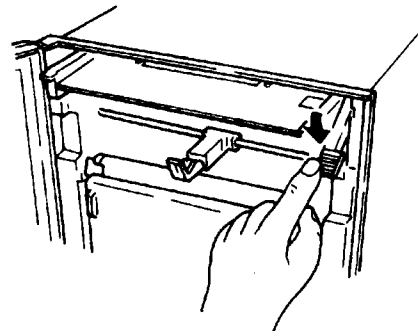

Figure 1.2b Scale Closing
- To return the scale plate back, first lift the release lever until the scale plate moves upward, then pull down the lever with the scale plate until it locks in place with a snap (Refer to Figure 1.2b).